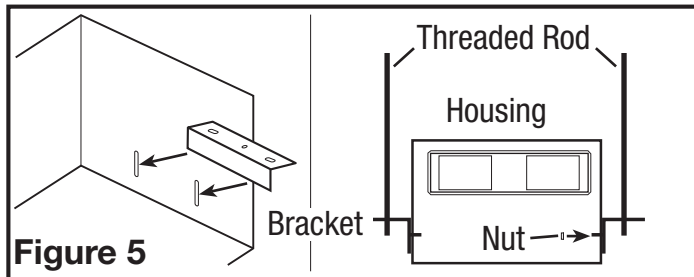

Figure 5
1. If the mounting brackets are not already in place, install both brackets through the top set of slots on the fan housing and secure in place with the four included nuts as shown. Lift unit up onto the threaded rods and secure in place using appropriate hardware (not included) (Figure 5).